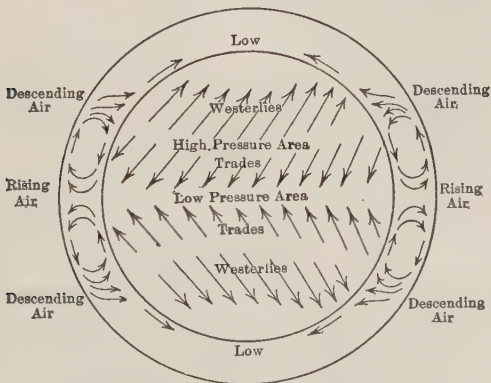

FIGURE 171.—WIND CHART.
**117. Winds.** — Winds are parts of huge convection currents on the earth. Too many factors enter into their formation to permit a full discussion here. In general, however, winds are set up in the earth's surface *toward* heated areas (Figure 171). The *trade winds* blow steadily toward the heated region of the equatorial calms to replace the air that rises in those regions. *Land and sea breezes* reverse daily